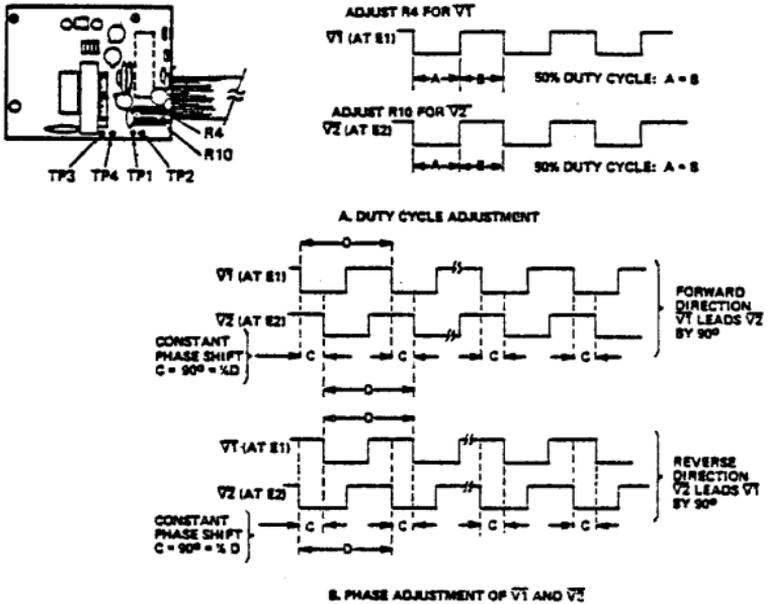

Figure 6
- Check the duty cycle of the V1 waveform and, if it is not 50% as shown in Figure 6 proceed to next step.
- Repeat Steps 2 through 4 above while monitoring V2 at E2 and, if necessary, adjust R10 to obtain a 50% duty cycle for V2. Refer to Figure 6.
- Check the phase relationship between $\overline{V1}$ and $\overline{V2}$ as the head moves in both the forward and reverse directions. As shown in Figure 6, the phase relationship between $\overline{V1}$ and $\overline{V2}$ should be a constant 90° phase shift over the complete travel of the print head (i.e., width C equals 90° when it equals $1/4$ width D). If phase adjustment is required, proceed to next step.
- Turn printer power on, activate self-test mode, and check phase adjustment again. Refer to Figure 6.